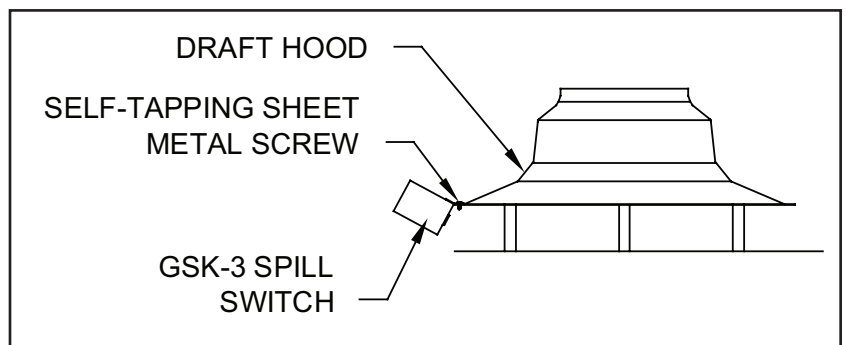

Figure 10
7. Install the GSK-3 spillage switch on the draft hood with the self-tapping sheet metal screw supplied. The thermal element disc should hang just below the draft hood relief opening. (See Figure 10)
8. Run the two (2) yellow wires from the break in the top of the wiring harness into the spillage switch through the plastic bushing opening and connect to the switch terminals.
7. Install the GSK-3 spillage switch on the draft hood with the self tapping sheet metal screw supplied. The thermal element disc should hang just below the draft hood relief opening. (See Figure 10)
4. Connect the black and yellow 24 volt wires from the Harness to the two (2) top terminals of the thermostat.
6. Install the GSK-3 spillage switch on the draft hood with the self-tapping sheet metal screw supplied. The thermal element disc should hang just below the draft hood relief opening. (See Figure 10)
7. Run the two (2) red wires from the break in the top of the harness into the spillage switch through the plastic bushing opening and connect to the switch terminals.